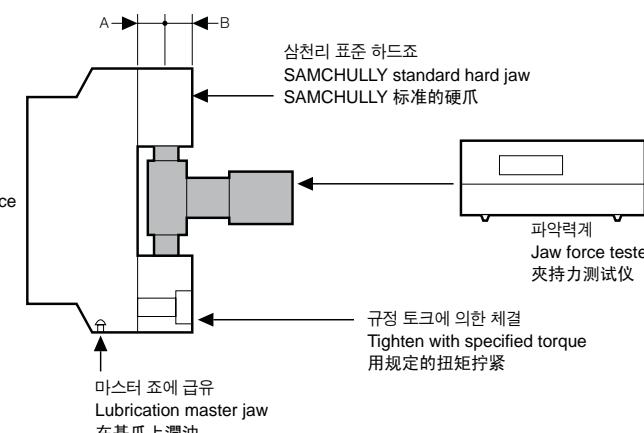

Fig.10
- (1) With SAMCHULLY standard soft top jaw used, the values of grip force are measured with jaw force tester at mid point of soft jaw height (from chuck surface to upper soft jaw face) as shown in Fig 10.
- (2) SAMCHULLY chuck grease is lubrication for obtaining the maximum efficiency of the chuck.
- (3) Mounting bolts of top jaw are tightened with specified torque. (Page16)
- (4) The maximum permissible input force for the wedge plunger is shown in the above table.
- (5) For hydraulic oil supply, the variable capacity type pump which has discharge capacity of 20 liters or more is used. Oil pressure is set with pump's own control device or a reduction valve which is provided separately from the system.